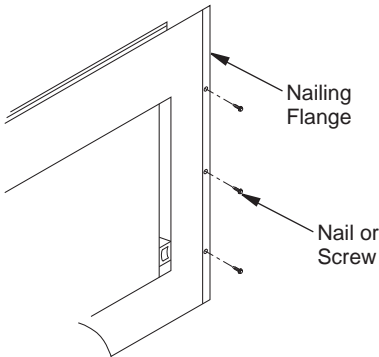

Figure 4 - Nailing Flanges
- Using screws or nails, secure fireplace to the framing through flanges located on sides of the fireplace (see Figure 4).